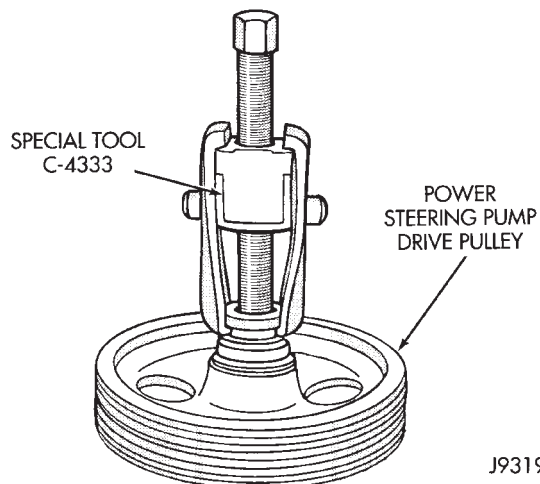

Fig. 5 Pulley Removal
- (1) Remove pump assembly.
- (2) Remove pulley from pump with Puller C-4333 (Fig. 5).